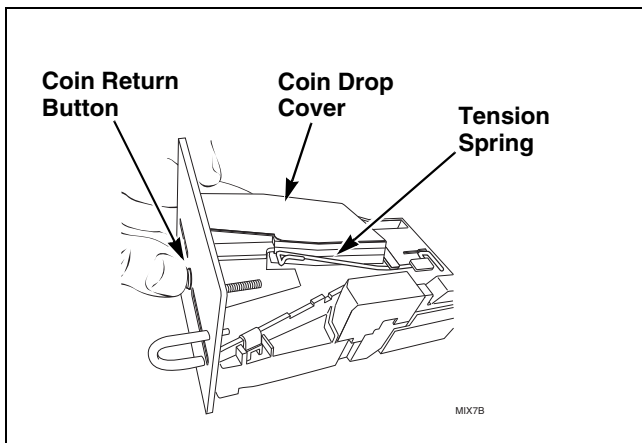
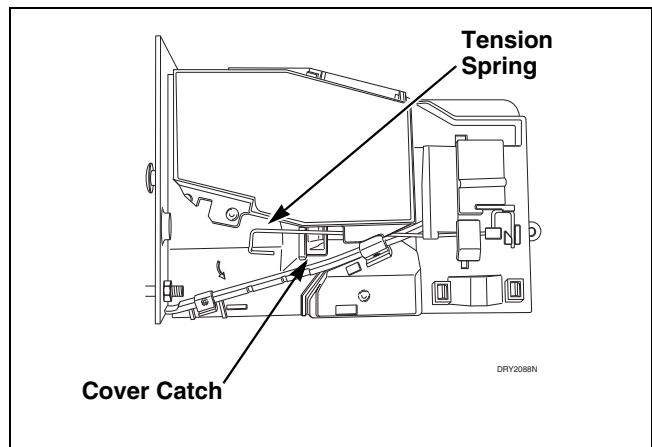
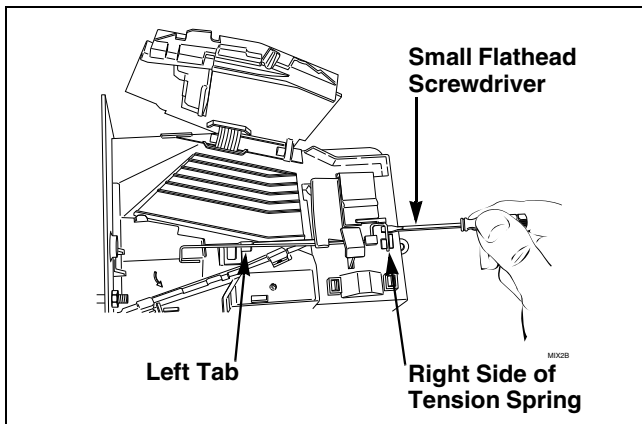

Figure 2
Figure 4
Figure 5
- (1) Clean coin drop. Refer to *Paragraph 55*.
- (2) On electronic coin drops with an old-style tension spring (shown in *Figure 2* and *Figure 4*), test and replace tension spring using the following instructions.
- (1) Push coin return button to open and close coin drop cover to clear possible coin jams. Refer to *Figure 2*.
- (1) Move tension spring downward until cover catch is free. Refer to *Figure 4*.
- (3) Place a small flathead screwdriver under right side of tension spring and lift up. Refer to *Figure 5*.
- (4) Use screwdriver to move spring approximately 3 mm to left.
(5) Lift spring over left tab. Refer to *Figure 5*.
- (13) Lift spring gently to place in position under left tab.
- (14) Push spring to right until it snaps into position. Refer to *Figure 5*.
- (15) Close coin drop cover.
- (16) Move tension spring over cover catch. Refer to *Figure 4*.